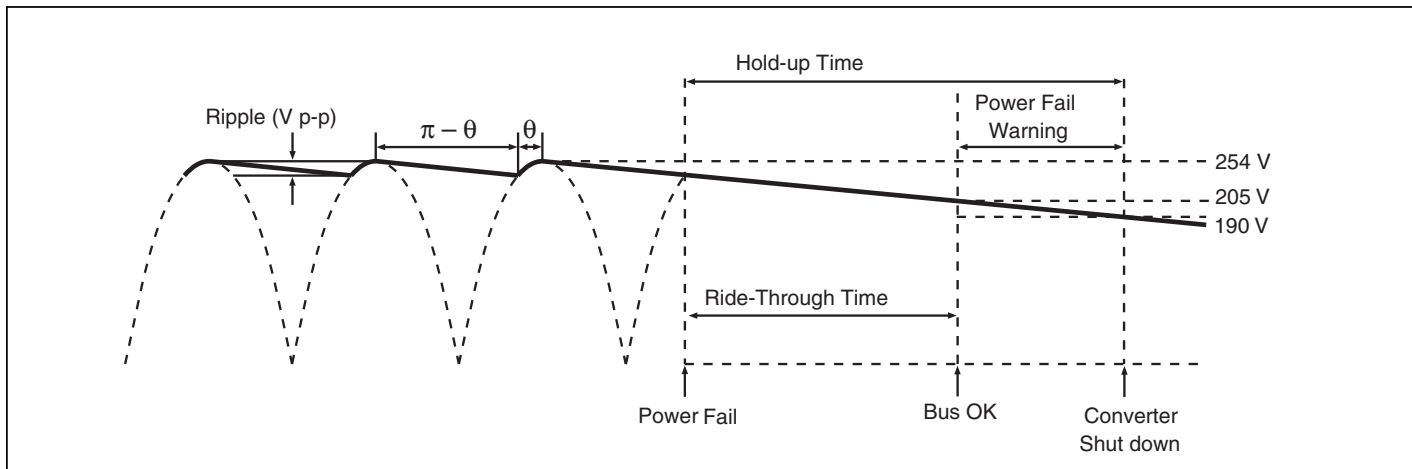

Figure 15 — Hold-up time
Hold-up capacitor values should be determined according to output bus voltage ripple, power fail hold-up time, and ride-through time (see Figure 15). Many applications require the power supply to maintain output regulation during a momentary power failure of specified duration, i.e., the converters must hold-up or ride through such an event while maintaining undisturbed output voltage regulation. Similarly, many of these same systems require notification of an impending power failure in order to allow time to perform an orderly shutdown.
The power fail warning time (Δt) is defined as the interval between BOK and converter shutdown (EN) as illustrated in *Figure 15*. The Bus-OK and Enable thresholds are 205 V and 190 V, respectively. A simplified relationship between power fail warning time, operating power, and bus capacitance is obtained by inserting these constants in Equation (3):
Equation 3 is again used to determine the required capacitance. In this case, V_1 and V_2 are the instantaneous values of bus voltage at the peaks and valleys (see *Figure 15*) of the ripple, respectively. The capacitors must hold up the bus voltage for the time interval (Δt) between peaks of the rectified line as given by: